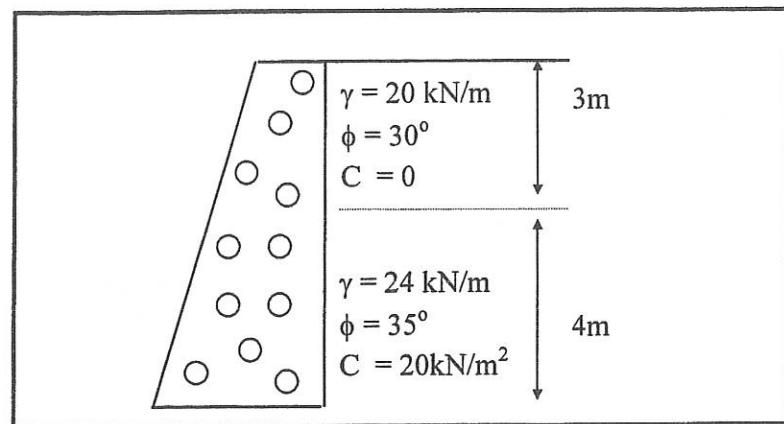

Figure 2b / Rajah 2b
- (b) A retaining wall built during the excavation carried out as shown in Figure 2b to bear two soil layers behind it. Regardless of passive pressure in front of the retaining wall.